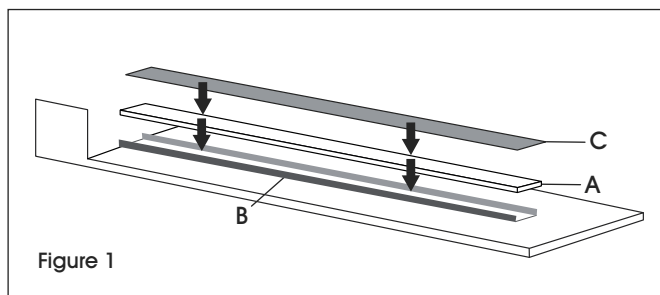

Figure 1
2. Place new silicone rubber pad (A) inside metal channel (B). (See Figure 1)
4. Apply dark brown 10 mil Teflon tape (C) to top of silicone rubber pad (A). (See Figure 1)